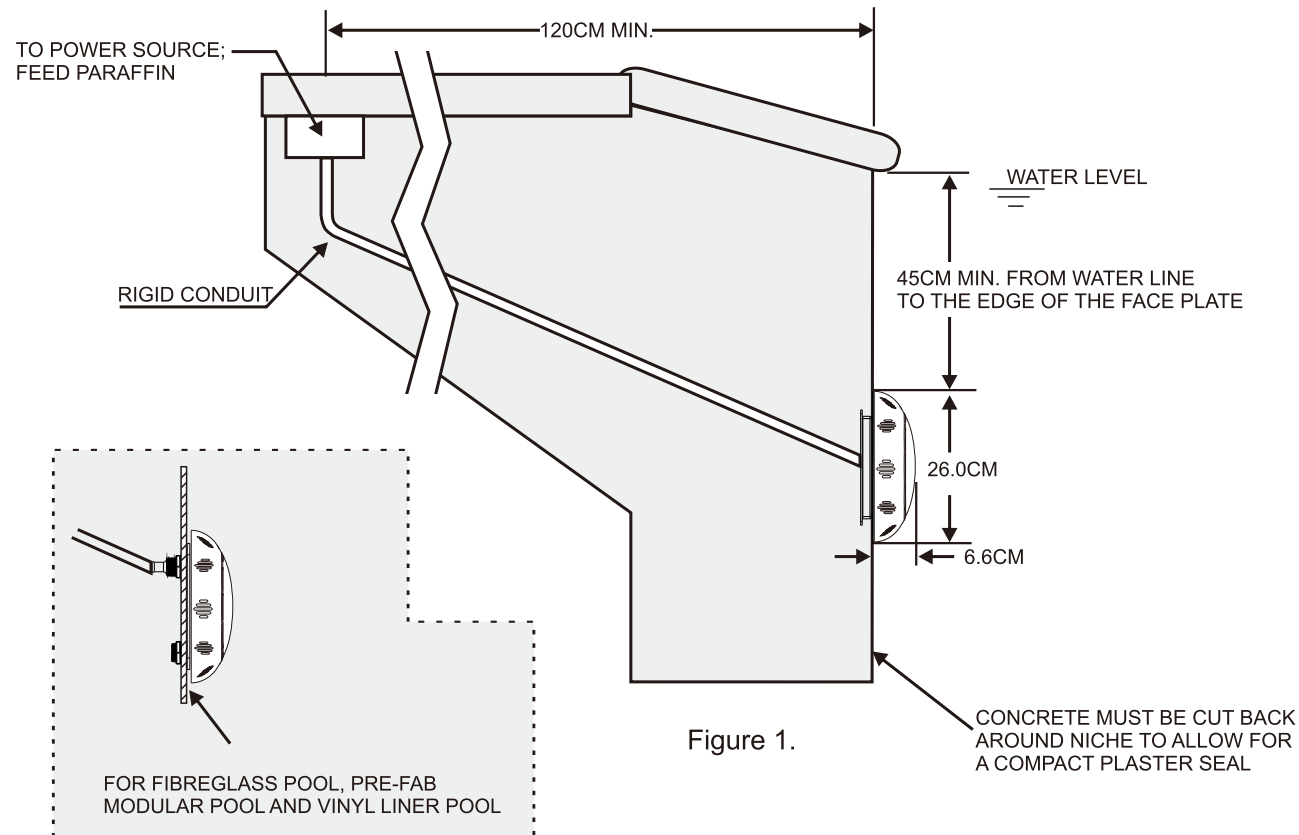

Figure 1.
A. Preparatory steps which must be completed by the electrician before light is installed, see Figure 1.
- The junction box, or the low voltage transformer for 12 volt models, is located at least 120CM from the edge of the pool, see Figure 1.
- The mounting bracket must be properly installed so that the edge of the face plate of the Underwater Light's lens is at least 45CM below the surface of the water in the pool, see Figure 1.
- Locate position on a vertical wall where light is to be installed. The edge of the face plate must be 45CM below normal water level, see Figure 1.